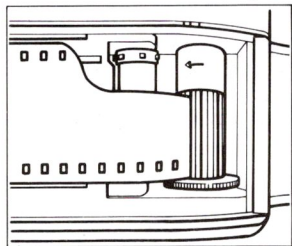

Fig. 17
3. Insert the film leader in the slit on the Film Take-up Spool. (Fig. 17)